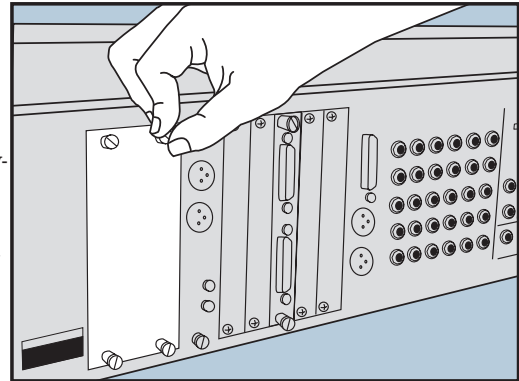

Figure F-3. FX Card Cover Plate Removal
1. Loosen the four spring-loaded screws on the blank cover plate to the FX card slot you want to fill. See Figure F-3